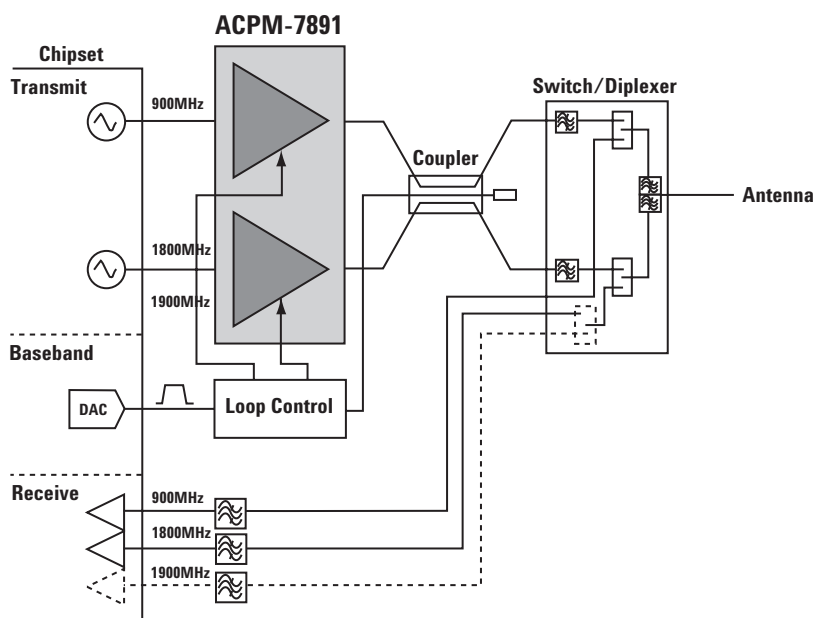

Figure 1. ACPM-7891 in a Typical Dual-band or Tri-band Terminal.
The Agilent ACPM-7891 provides a cost effective dual or tri-band GSM Power Amplifier (PA) solution with the additional benefit of multi-slot GPRS operation, giving excellent efficiency and extended transmit time. Figure 1 illustrates how the ACPM-7891 fits into a typical dual-band or tri-band terminal design. The device is internally matched to 50Ω and therefore an effective design can be implemented quickly with a few additional capacitors for d.c. blocking of the output ports and bypassing of the supply pins.